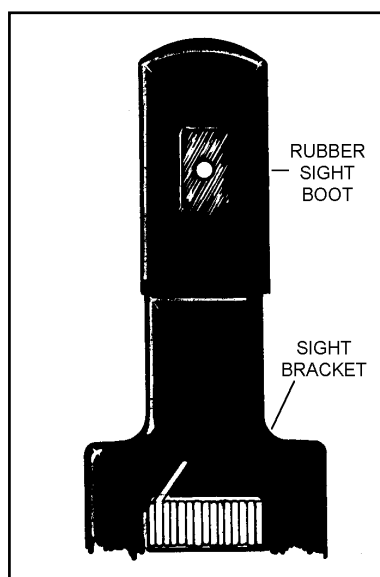

Figure 2-10. Rear sight, M72A2 and M72A3 LAWs.
b. **Rear Sight, M72A2 and M72A3 LAWs.** The rear sight consists of a steel bracket with a rubber boot and plastic peep sight. This sight automatically adjusts to changes in temperature (Figure 2-10), which means that its settings are unaffected by temperature.